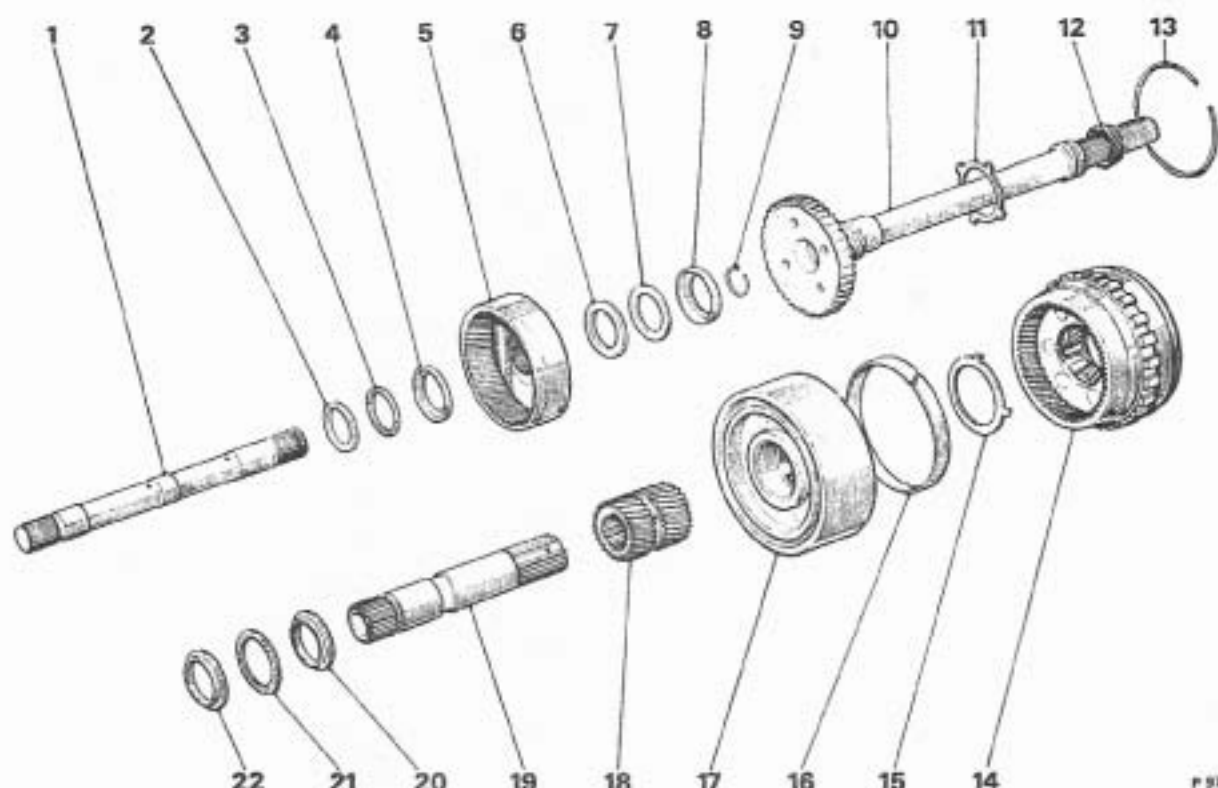

FIG. T268 GEAR UNIT—EXPLODED
1. Using adapter RH 7960 (J-21364) in rear unit holding fixture RH 7959 (J-6116), fit the gear unit into the holding fixture with the output shaft pointing downward. An exploded view of the gear unit is shown in Figure T268.